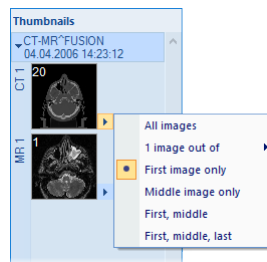

Figure 34 – First image only display (all separated series mode)
- **First image only** - the first image of the series of the selected study is displayed (see Figure 34).